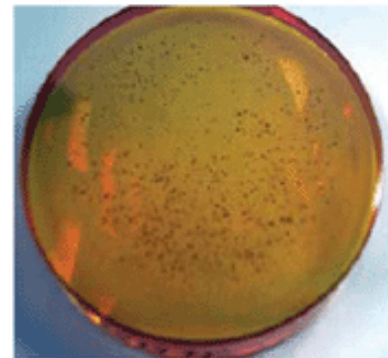

Fig. 2. Spatters on the bottom of the lens
**B. Lower side (CC/ Plano)** - this type of failure is usually caused by the following reasons (see fig.2):